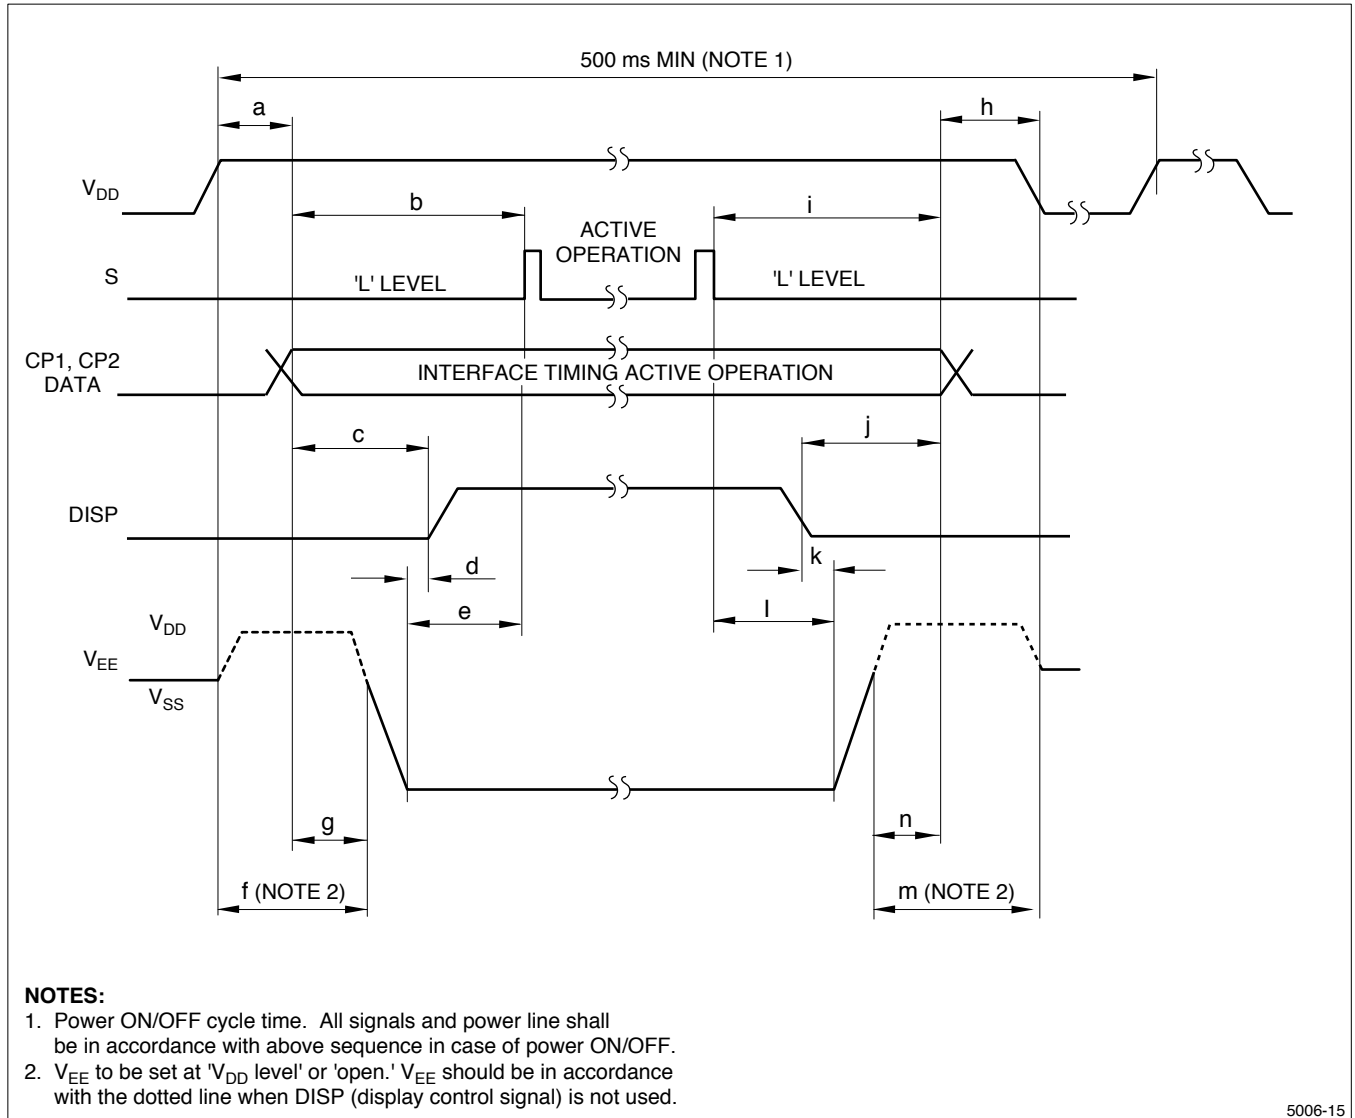

Figure 14. Supply Voltage Sequence Condition
- The unit should be driven according to the specified ratings to avoid malfunction or permanent damage. DC voltage drive leads to rapid deterioration of LC, so ensure that the drive is alternating waveform by continuous application of the signal M. Avoid latch-up of driver LSIs and application of DC voltage to the LCD panel by following the ON/OFF sequence shown in Figure 14 and Table 1.
Refer to Figure 14 and Table 1.